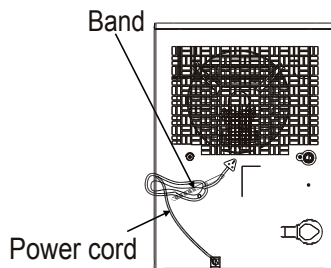

Fig. 12
- Wrap the cord and bundle it with the band (see Fig.12).